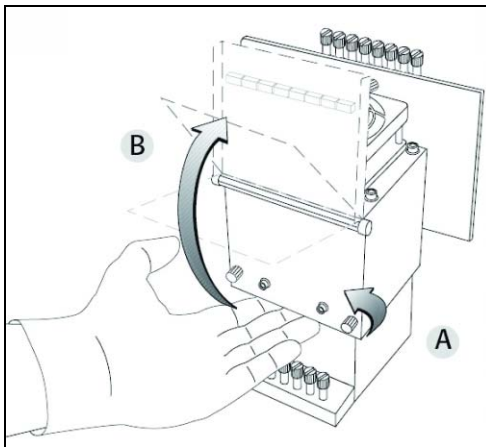

Figure 6-67: Opening the print-head compartment
- Open the print head compartment (see figure 6-67 on page 47).